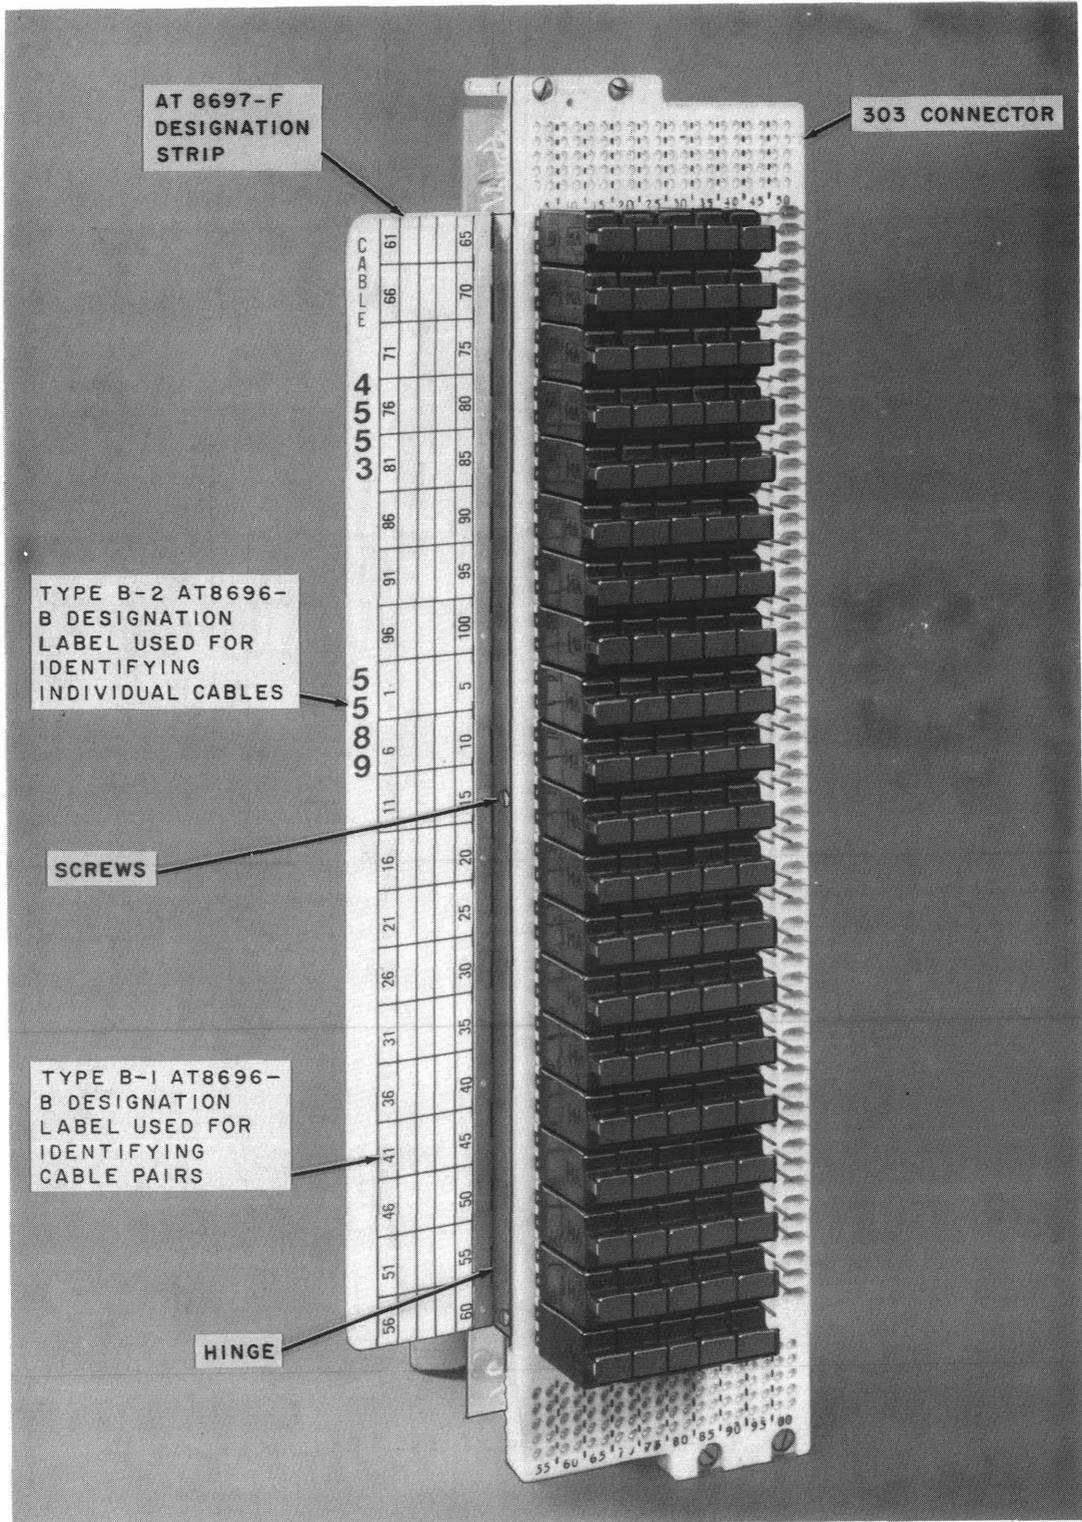

Fig. 8—AT-8697-F Designation Strip Mounted on 303-Type Connector
3.03 As shown in Fig. 8, the hinged portion of the designation strip is mounted to the left side of the 303-type connector by utilizing the three existing screws on the ground bar.